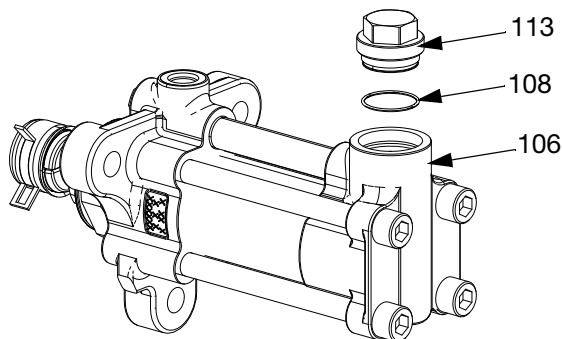

FIG. 8
2. Remove inlet hose and drain inlet housing (106).
3. Remove inlet valve cap (113) from inlet housing (106), and remove o-ring (108). See FIG. 8.